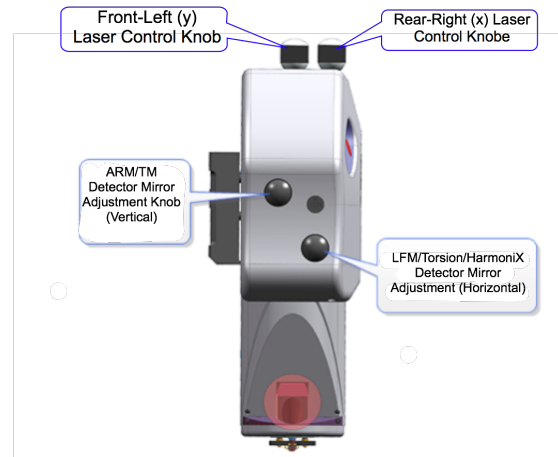
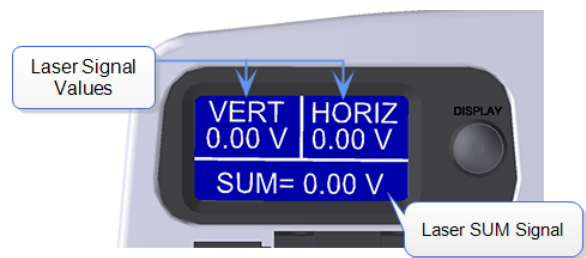

Figure 5. Dimension Icon Scanner Head side view.
Figure 7. LCD display
14) If the tip is out of focus that prevents the laser alignment, see Step 15. Align the laser on the cantilever and maximize the sum of the signals on the detector using the knobs on the top of the scanner head as shown in Figures 5 & 6. If needed, a video is available in the software to help . Do not turn the knobs too far in one direction, as this can break the mechanism and even worse break parts inside the head. **NEVER FORCE THE KNOBS.**
15) Align the signal on the detector by adjusting the knobs on the left of the scanner head, Figure 5, until the vertical and horizontal deflection are either zeroed or nearly zeroed. 0 ± 0.3 V are acceptable, Figure 7. Again, a video is available in the software to assist you. Do not turn the knobs too far in one direction, as this can break the mechanism and even worse break parts inside the head. **NEVER FORCE THE KNOBS.**